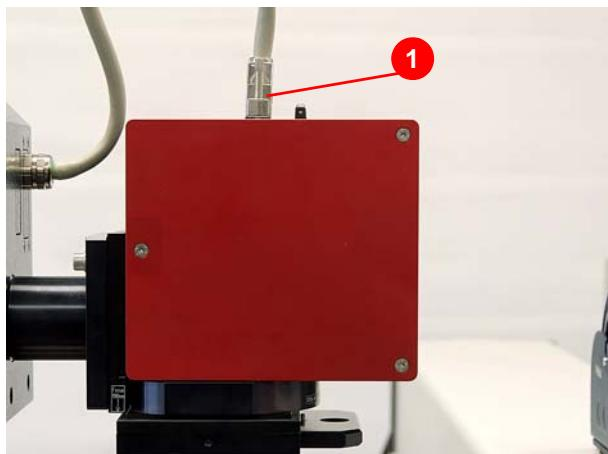

Figure 7.1 Galvo head connecting plug
1. Loosen and remove the connecting plug of the galvo head (1) (Figure 7.1).